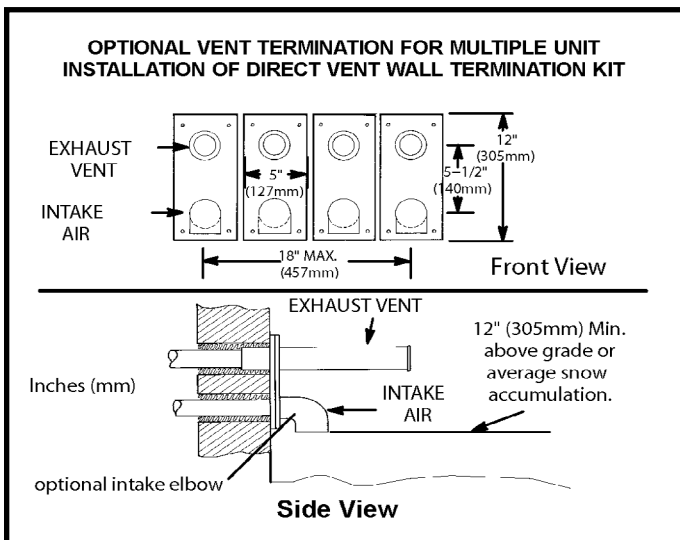

Figure 44
- A multiple furnace installation may use a group of up to four terminations assembled together horizontally, as shown in Figure 44.